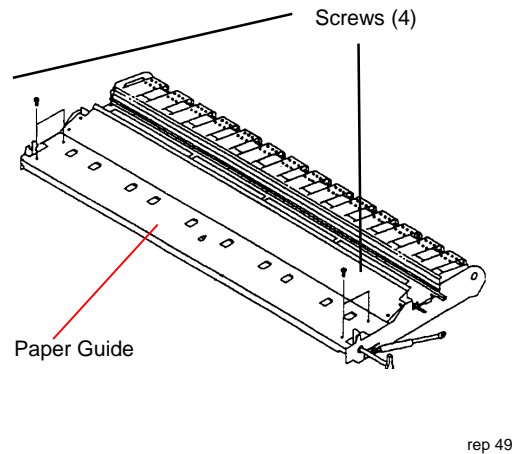

Figure 1. Removing the Paper Guide
3. (Figure 1): Remove the four screws and the Paper Guide .